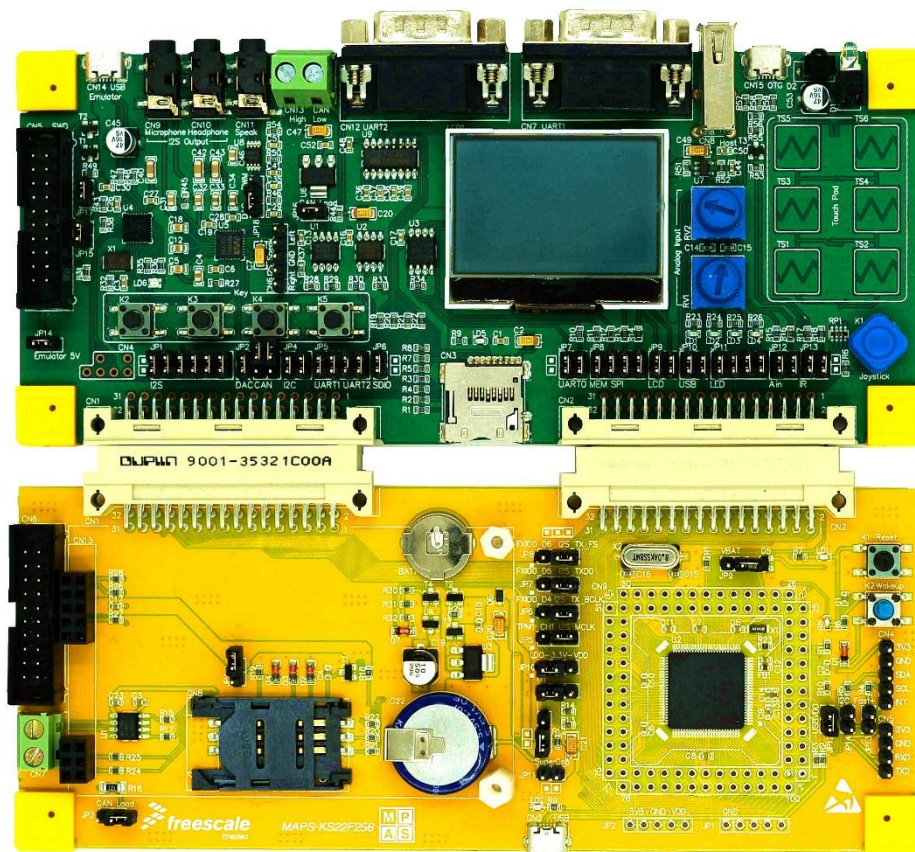

Figure 2. MAPS-KS22F256 Development Kit
- MAPS-KS22F256 Development Kit, including MCU board and Dock board. This is shown below in Figure 2.